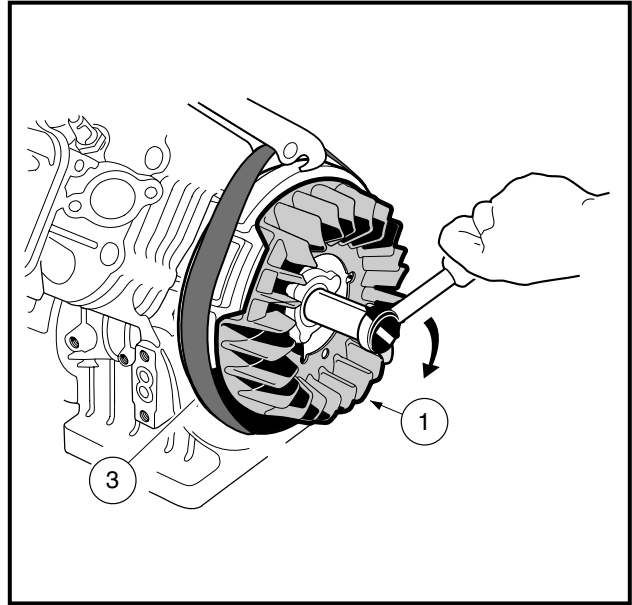

Figure 13-106 Fan and Flywheel Assembly
3. Use a strap wrench (3) to keep the flywheel and fan assembly (1) from turning while tightening the flywheel nut to 63 ft-lb (85.4 N·m) (**Figure 13-106, Page 13-49**). **See following CAUTION.**